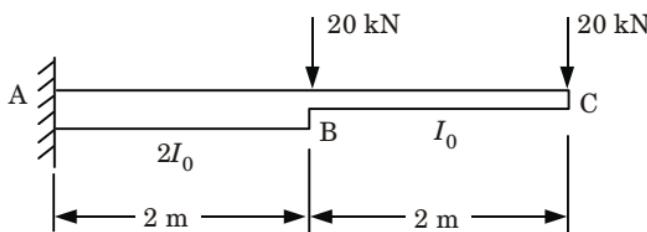

Fig. 3.7.1.
- Q. 7.** Determine the deflection and rotation at the free end of the cantilever beam shown in Fig. 3.7.1. Use unit load method. Given  $E = 2 \times 10^5 \text{ N/mm}^2$ , and